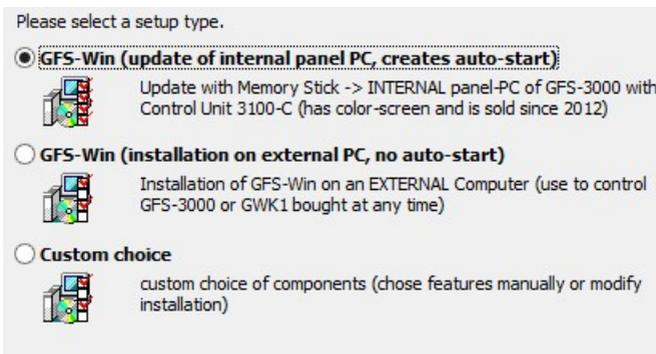

Fig. 70: Setup types: When updating the internal PC, select first type; for installation on an external PC, select second type.
- give a choice of installation types (Fig. 70):
the second option must be selected (see Fig. 70). Also the installation directory can be changed, but note that Windows Vista and later versions have special restrictions in the subdirectory "Program Files". GFS-Win works better, if it is not installed under this subdirectory.